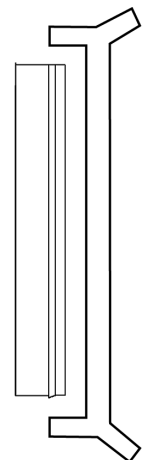

figure 21
1. Place the impeller and impeller drive assembly (items 4, 4A, 4B, 5, 5A, 5B) on a table with the suction side facing up.
2. Position the replacement impeller thrust ring in the bore of the front shroud with the snap fit ridge towards the bottom of the bore. See figure 21. Align the anti-rotation flat on the impeller thrust ring with the flat in the impeller shroud.